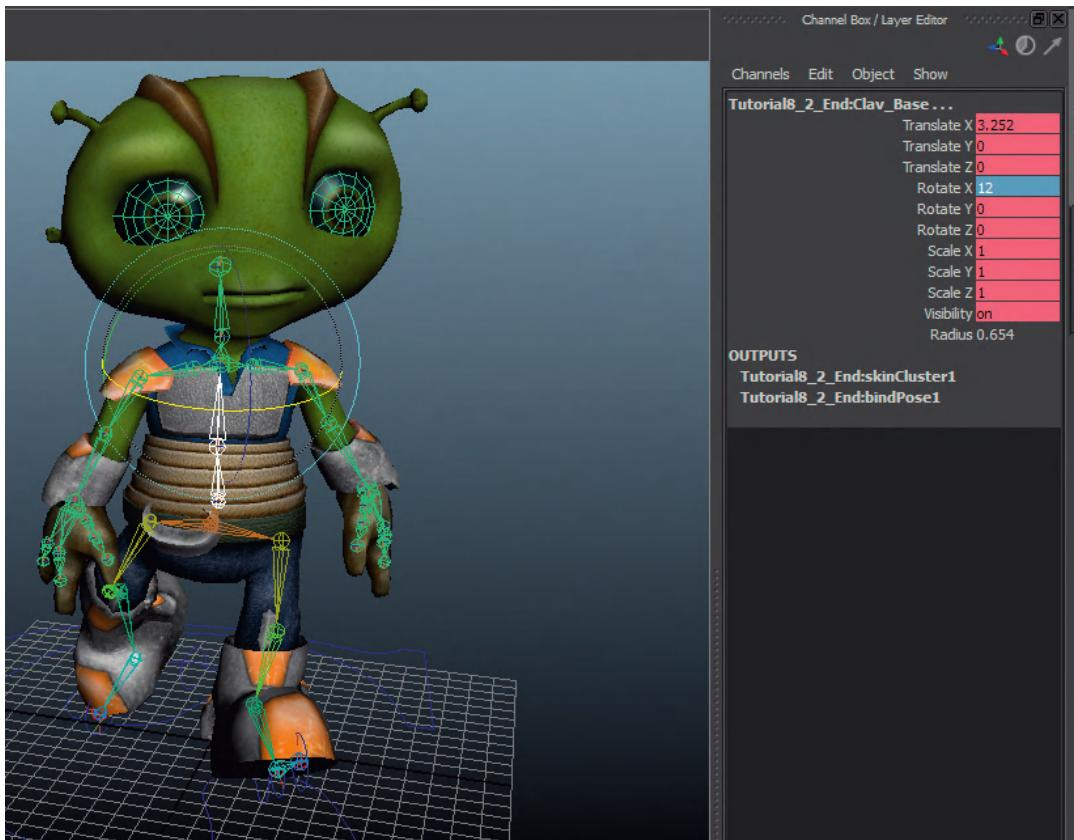

FIG 9.36 Rotating the back and shoulders to counteract the rotation of the hips.
Step 23: Balance the body through a torsion twist of the back. We'll do this at frames 1, 12, and 24 (the footfall poses). Select the joints that are the back (Back_Base, Back, Clav_Base) and then starting at frame 1, rotate them so that the shoulders are opposite to the hips (so, for instance, at frame 1, the right shoulder is rotated forward by rotating all the three joints 12 degrees [Fig. 9.36]). Take note of what the rotate values are here as they will be just opposite at frame 12. Values at frame 24 will match those at frame 1.